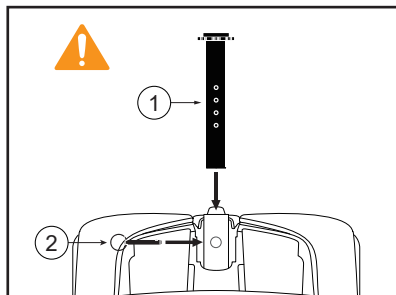

Figure 11
2. Change the seat post to the new position and refit the detent pin (see figure 11).